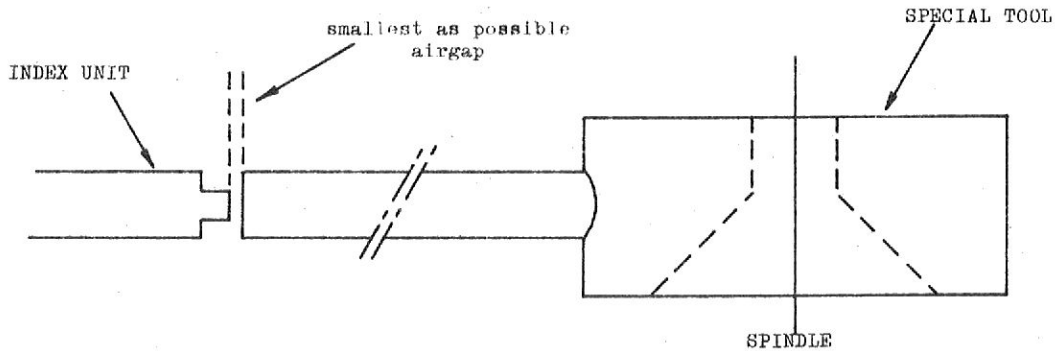

Figure 7-27
4. Adjust the index unit with the gauge, so that it is just free. See figure 7-27